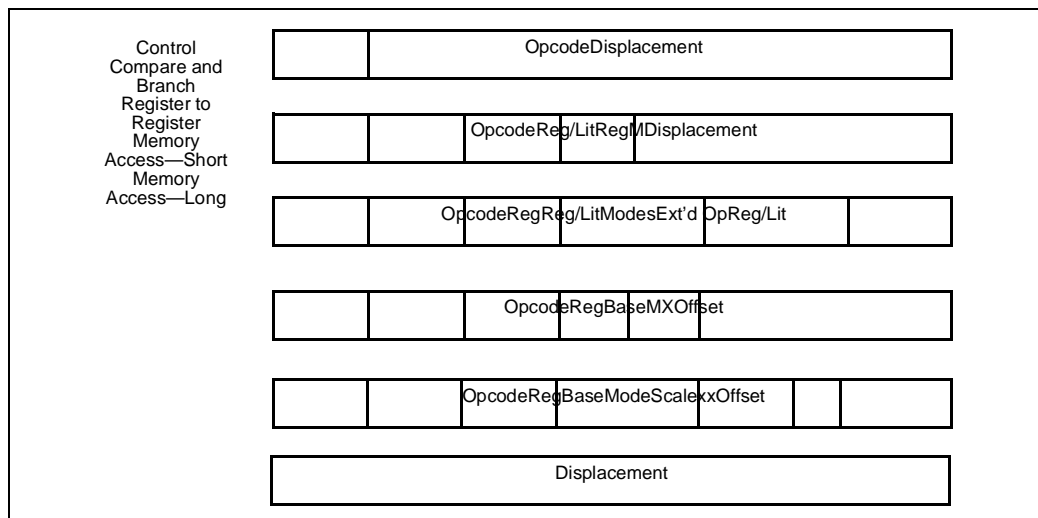

Figure 3. Instruction Formats
4. **Simple Instruction Formats.** All instructions in the 80960KB are 32 bits long and must be aligned on word boundaries. This alignment makes it possible to eliminate the instruction alignment stage in the pipeline. To simplify the instruction decoder, there are only five instruction formats; each instruction uses only one format. (See Figure 3.)